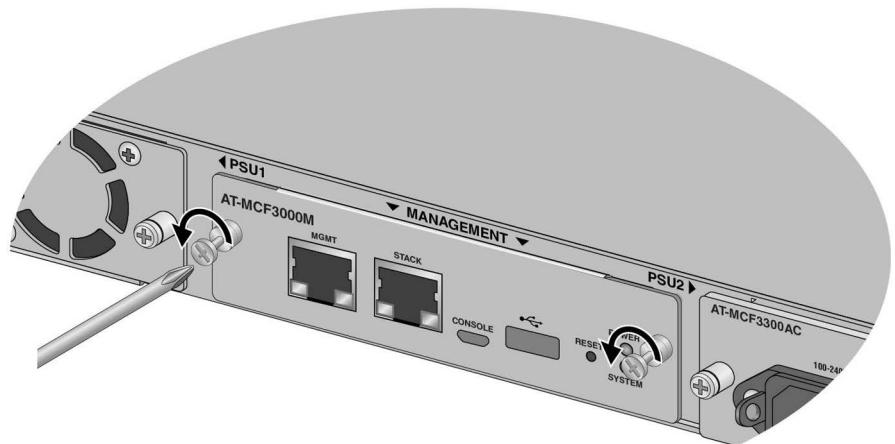

Figure 82. Loosening the Captive Screws on the MCF3000M Management Module
2. Loosen the two captive screws on the management modules with a cross-head screwdriver. Refer to Figure 82.